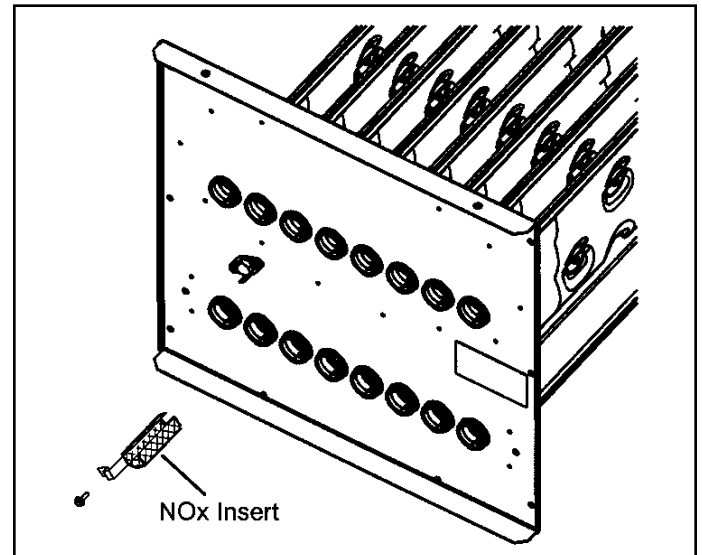

Figure 29. NOx Inserts
8. NOx units only - Remove screw securing NOx insert. Remove NOx insert. See Figure 29.